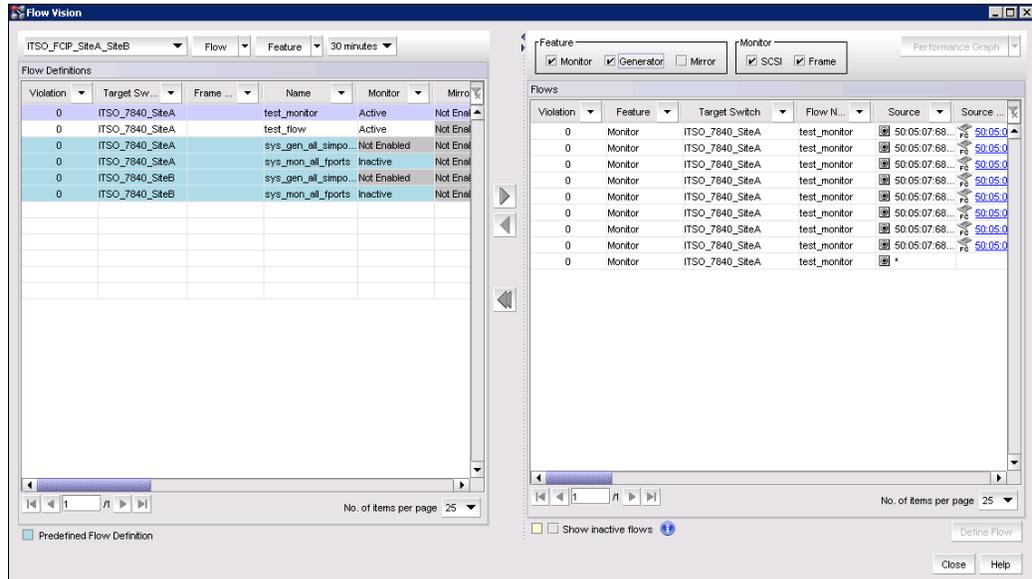

Figure 7-18 Configure Flow Vision
1. Select the switch or switch port from the Connectivity Map or Product List, and then select **Monitor** → **Fabric Vision** → **Flow** → **Monitor**. The Flow Vision window is displayed (Figure 7-18).